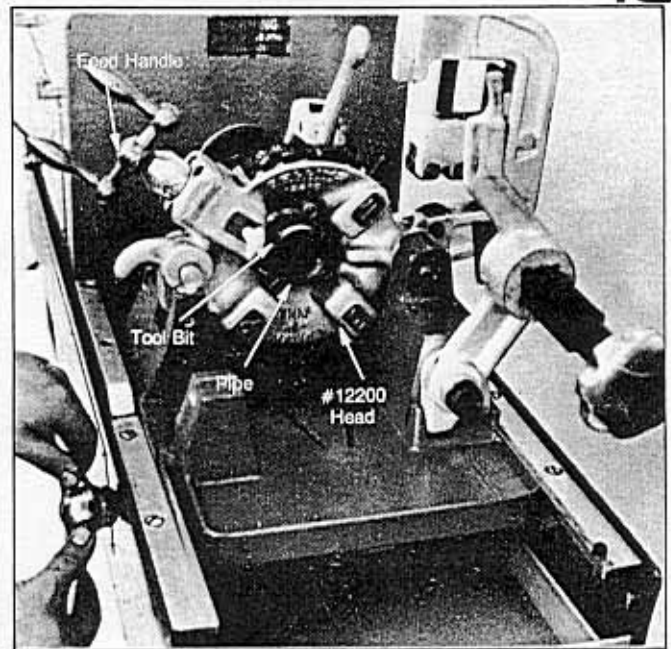

Figure 13 — Reaming and Chamfering
1. Install head on carriage pin. See Fig. 13.